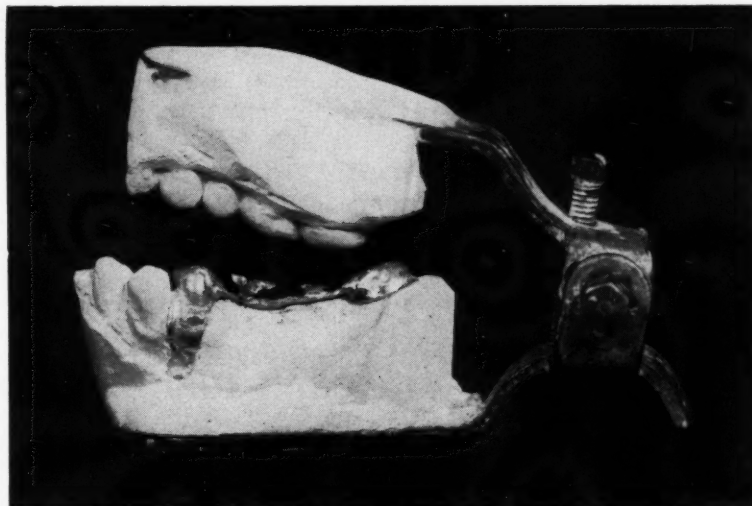

Fig. 4—Bridge frame assembled.
9. The resultant wax frame was then removed, cast, and soldered to the molar crown with the cast lock rest in position on the bicuspid (Fig. 4).